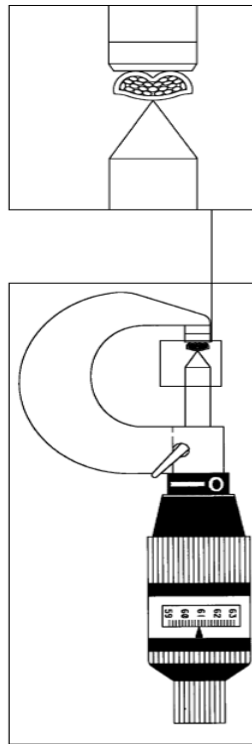

Figure 13
3. Place the flat blade of the crimp micrometer across the center of the dual radii of the conductor crimp. Do not take the measurement near the conductor bell mouth (see Figure 13).